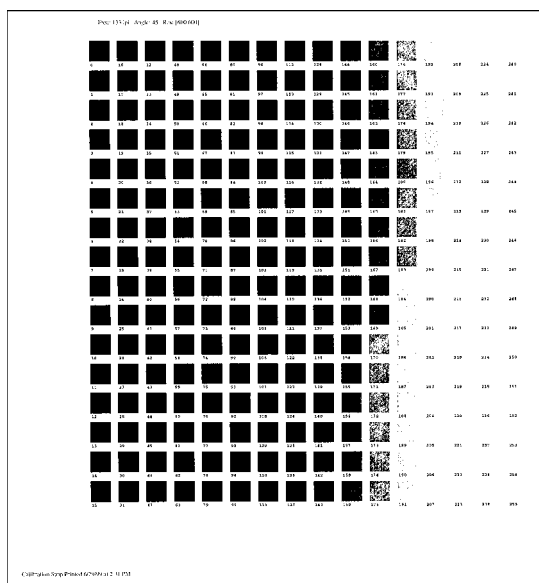

Fig. 5 A Sample Calibration Page
- e. Click Print Calibration Page (fig. 3 Macintosh or 4 PC). The calibration page shows the printer's performance using no gamma curve correction (fig. 5).